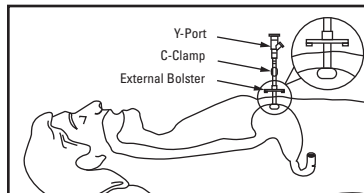

Figure 13
- Position the C-Clamp and Y-Port on the PEG tube (Figure 13).